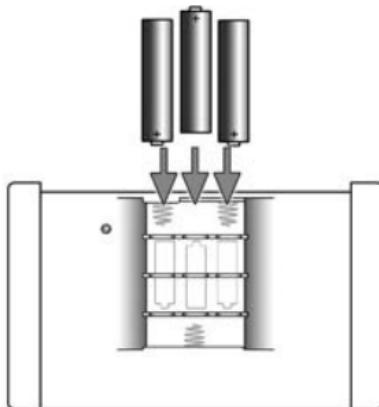

Figure 4
- Insert the 3 AAA-batteries. Ensure the correct polarity of the batteries. (Figure 4)